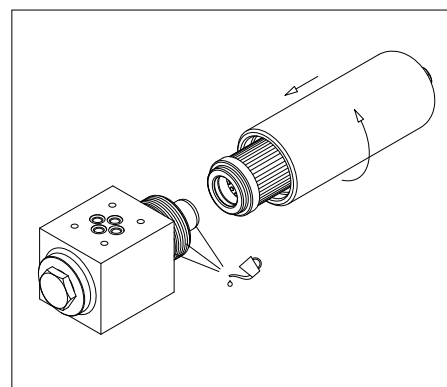

fig. 5
- (Fig. 5) Lubricate with the operating fluid the O-ring, the tap and the thread of the head, then fit the filter element on the tap